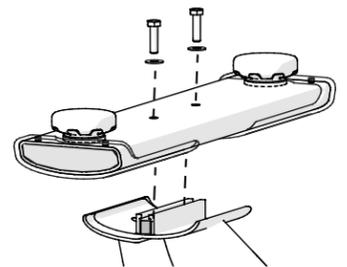

Figure 3
- Attach the rear stabilizer to the frame using two bolts **1** and two flat washers **2** (Figure 3).